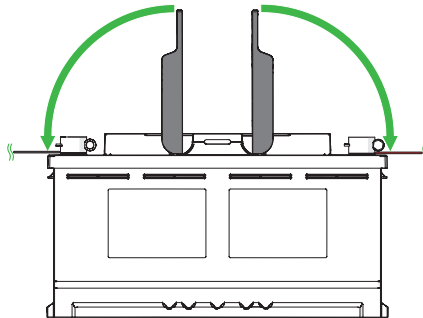

Figure 6. Place the handle covers over the terminals
4. Place the handle covers over the terminals. (Figure 6)